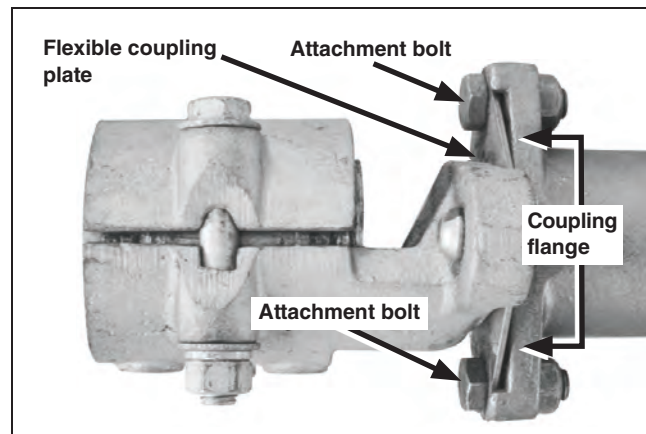

Figure 21. Attach the plate to the coupling flange.
- Install and tighten the self-locking nuts. DO NOT use lockwashers with the flexible coupling attachment bolts. See Figure 21.